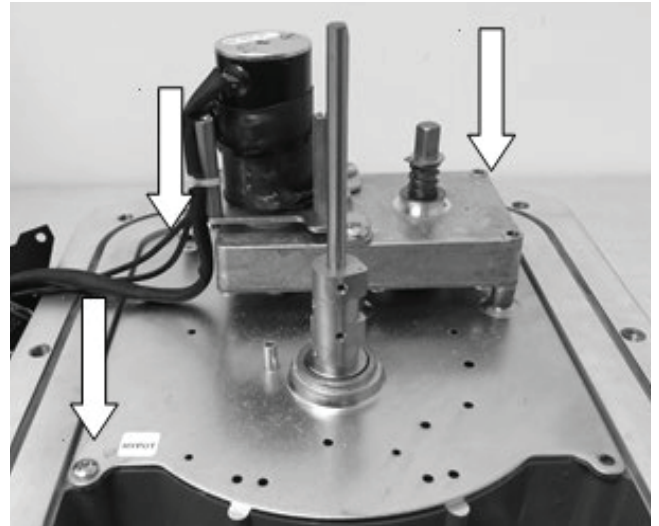

Figure 10.
- 4.12 Remove the remaining 3 Philips screws that hold the motor support plate in place, see Figure 10. (Note there will be 5 screws remaining in ADC actuators)